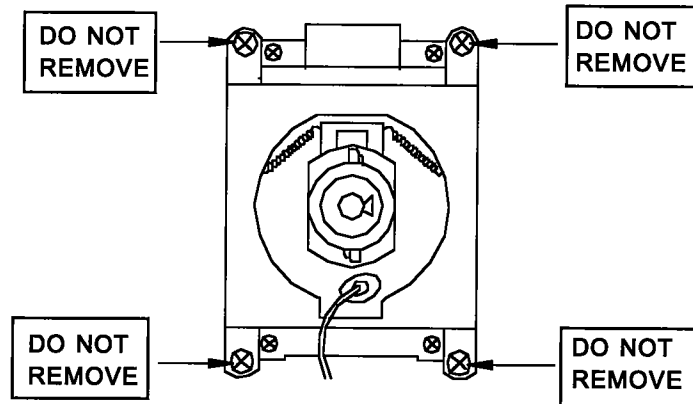

Fig 5-4
**Note:** The CRT fixing screws should not be loosened nor should they be removed. [Fig. 5-4]